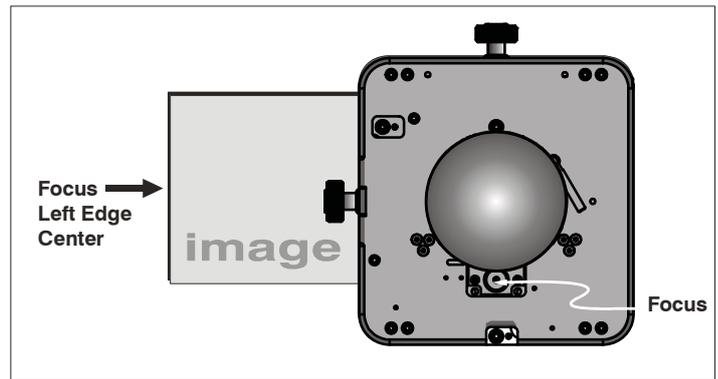

Figure 2-21 Adjust Focus
3. Adjust the **Focus** using the focus knob to retract the lens. (**Figure 2-21**) Watch the image at the left edge of the screen until it comes into focus. If the image appears well-focused on the left edge but not on the right, we need to determine if the right side focuses in front of or behind the screen. If the entire screen come into focus, skip to step 7.